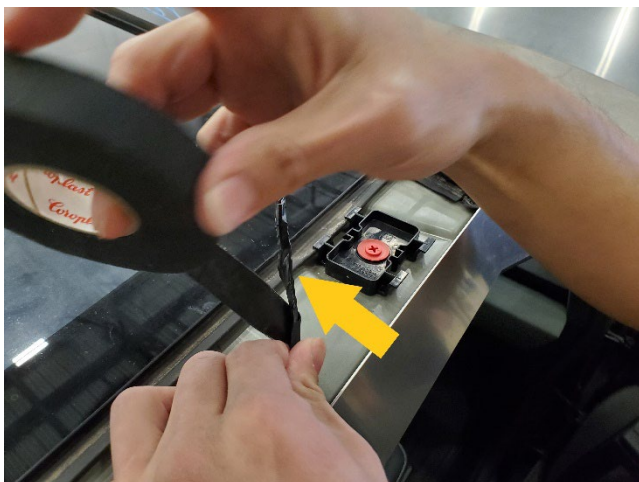

Figure 29
29. Wrap the entire off road lightbar harness and splice areas with new harness tape (Figures 29 and 30).